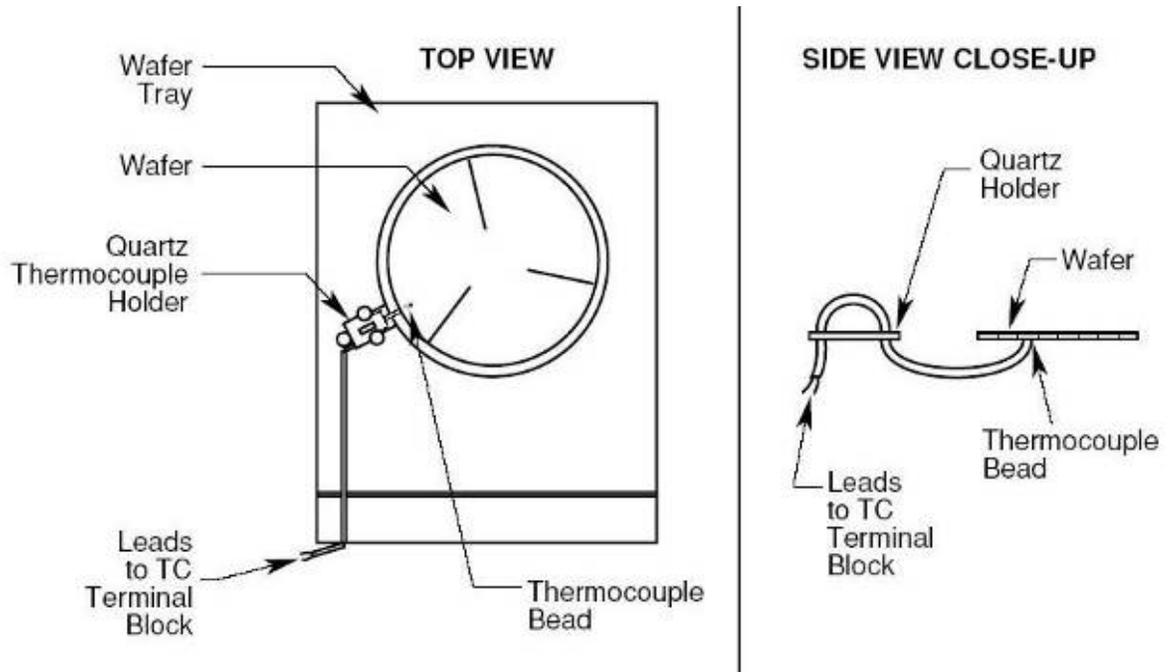

Figure 9-4: *Cantilever Thermocouple Assembly*
- **Cantilever thermocouple assembly:** This type is a 10-mil type K bead thermocouple in direct contact with the backside of the wafer. The thermocouple is held against the wafer by two spring wires that also serve as the thermocouple leads. The wires pass through a removable T-shaped mounting piece made of quartz. See Figure 9-4.